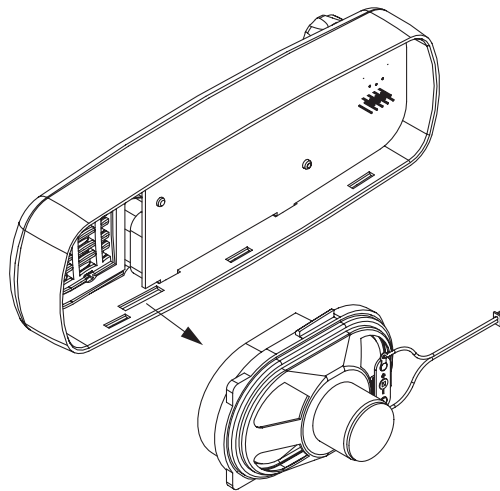

Figure 2-11: Speaker and Speaker Tube Removal
2. Disconnect the speaker socket and remove the speaker (Figure 2-11) with tube by stretching the control head housing and pulling out the tube.